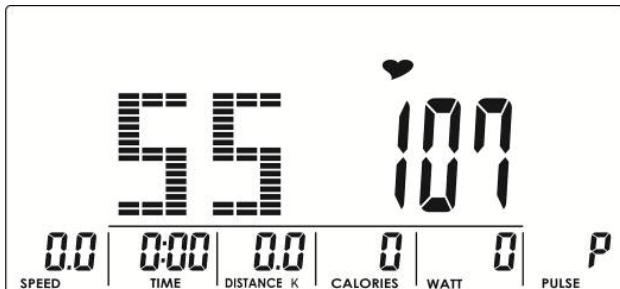
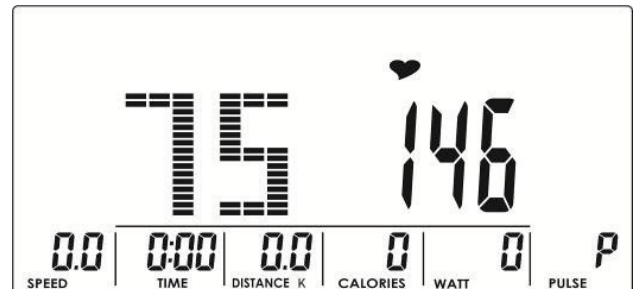
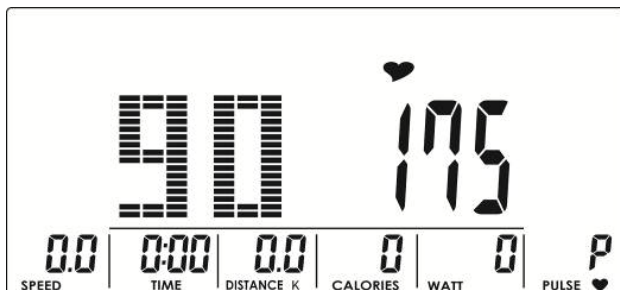
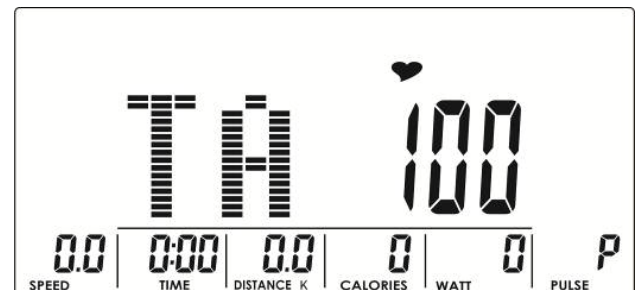

Fig. 11
Fig. 12
Fig. 13
Fig. 14
2. Select 55 % (fig. 11), 75 % (fig. 12) 90% (fig. 13) or TAG (target heart rate, default value: 100) (fig. 14) with the jog dial and confirm with MODE. If you have selected TAG, now set a value from 30 to 230 with the jog dial and confirm with MODE.